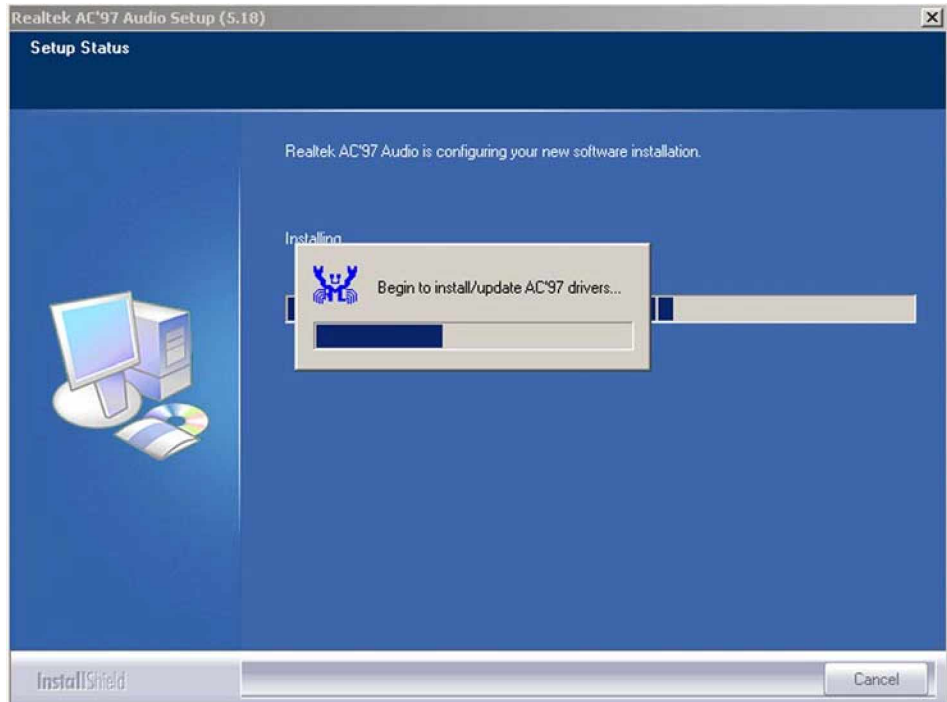

Figure 6-11: Audio Driver Installation Begins
Step 6: At this stage the clicking the “YES” button in **Figure 6-10** appears, the installation of the driver begins. See **Figure 6-11**.